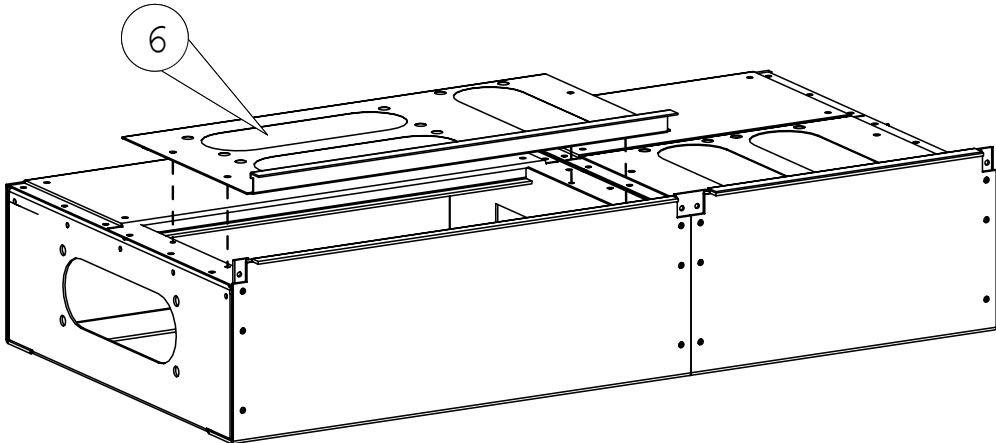

Fig. 2.4. Installing instrument compartment bottom to the base of a light cell centre.
The instrument compartment of a light cell centre can be covered using an instrument compartment bottom (6), Fig. 2.4.